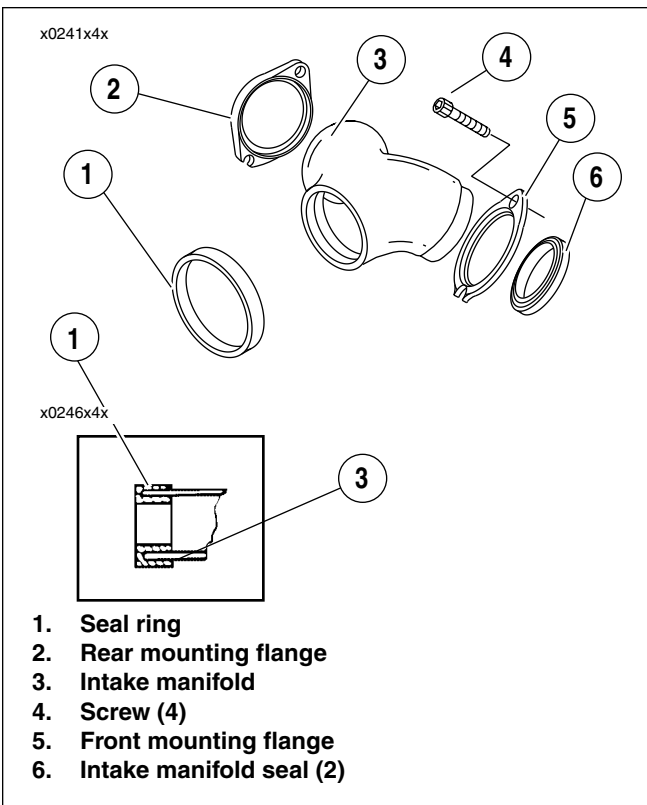

Figure 4-7. Intake Manifold
6. See Figure 4-7. Pull carburetor free of intake manifold. If removing intake manifold, remove four manifold mounting screws. Remove intake manifold, seal ring, mounting flanges (1 and 2) and two intake manifold seals.
1. See Figure 4-7. Place flanges onto aluminum manifold.
7. See Figure 4-7. Final tighten intake manifold screws to 6-10 ft-lbs (8-14 Nm) torque.